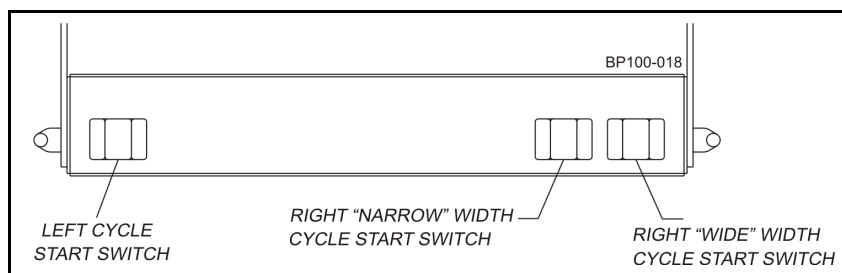

Figure 6 - Cycle Start Switches for Dual Width Control Operation
3. Simultaneously place hands on right and left hand start touch pads (PX1 & PX2 or PX3) (Figure 6) and hold will energize the following: